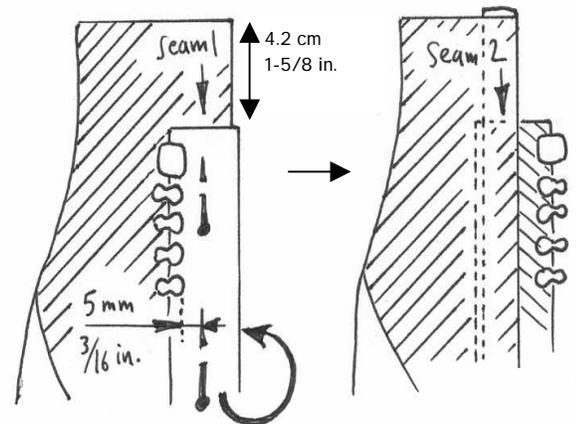

Figure 15
- Separate the zipper and pin the right half of the zipper to the left edge of the insert, making sure that the top stop of the zipper is 4.2 cm (1-5/8 in.) from the top edge of the fabric. Pin the right sides of the zipper tape and the fabric together, with the fabric's edge slightly recessed with respect to the edge of the zipper tape, as shown on **Figure 15**.
- E. Fold the zipper tape under as shown on **Figure 15** making sure that it lies flat and smooth. Typically, the zipper edge of an insert will be longer than the zipper itself. Fold and pin in place the edge of the fabric beyond the end of the zipper. Top-stitch a second seam 4 mm (3/16 in.) from the first one starting at the top of the insert. Keep pulling the fabric and the zipper gently apart as you sew to avoid folds and wrinkles. Keep sewing below the zipper and finish the seam at the bottom.